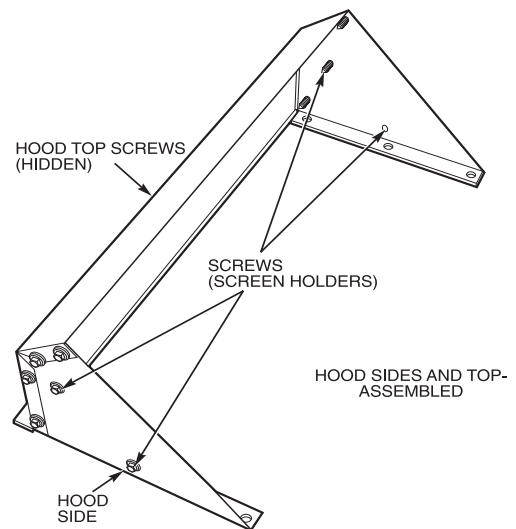
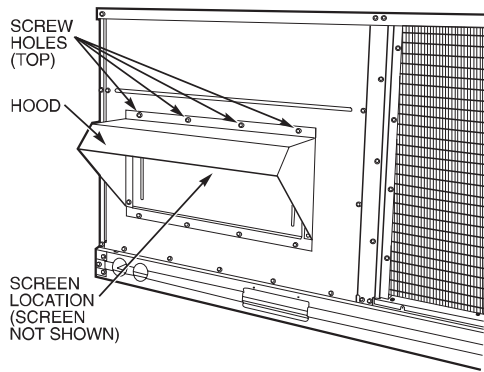

Fig. 19 – Outdoor-Air Hood Details
Fig. 20 – Outdoor-Air Damper With Hood Attached
5. Place hood on front of outdoor air opening panel. See Fig. 19 for hood details. Secure top of hood with the 4 screws removed in Step 3. (See Fig. 20.)
7. Align screw holes on hood with screw holes on side of manual outdoor-air damper. (See Fig. 19 and 20.) Secure hood with 6 screws from Step 6.
9. Remove and save screws currently on sides of hood. Insert screen. Secure screen to hood using the screws. (See Fig. 20.)